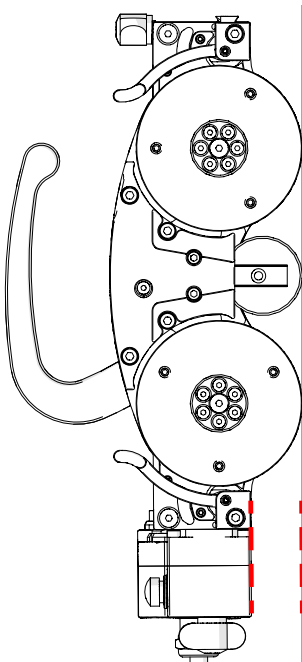

Fig. 98 - Align umbilical mount
1. For scanning at heights greater than 2 m (6 ft), the umbilical must be set parallel to the scanning surface (Fig. 98).